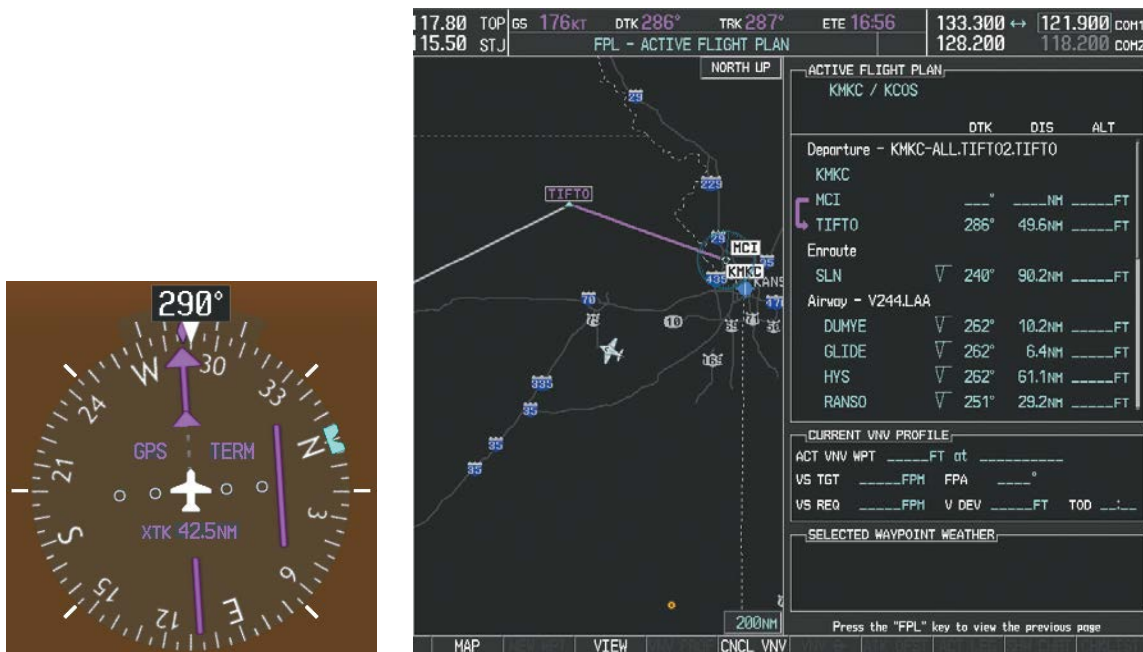

Figure 5-112 Assigned Heading of 290°
- 3) ATC now assigns routing to join V4. A heading of 290° is assigned to intercept V4. The aircraft turns to heading 290° as seen in Figure 5-112.